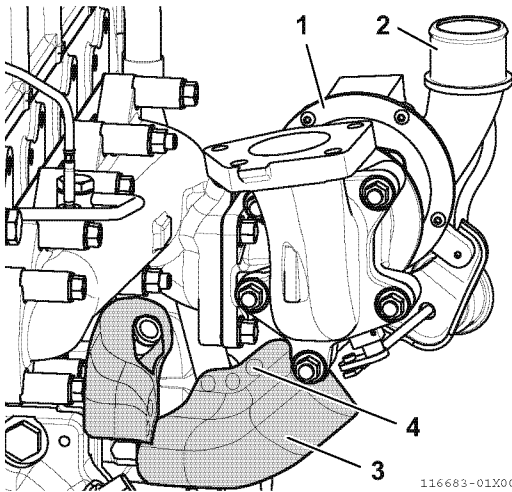

Fig.24-10
- 1 - Disconnect the air outlet (2, Fig.24-10) connection of the high-pressure stage turbocharger (lower side) (1, Fig.24-10).
- 2 - Remove the snap pin (4, Fig.24-10) from the heat shield cover (3, Fig.24-10) for the lubricating oil return hose of the high-pressure stage turbocharger (lower side).